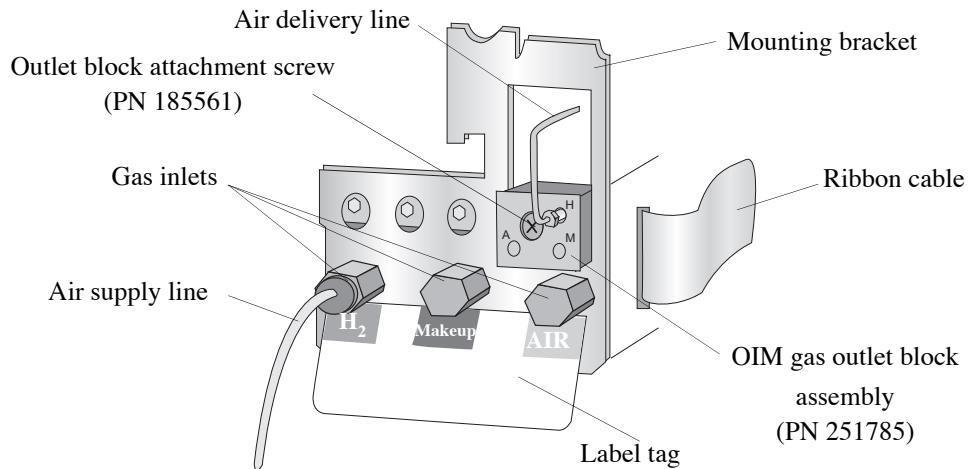

Figure 3.16. OIM gas flow module (nonventing configuration)
2. Remove the Agilent gas outlet block attached to the front upper right corner of the OIM gas flow module by unscrewing the Torx T-20 outlet block attachment screw (PN 185561) (refer to Figure 3.16). Leave the three O-rings in place
11. If not using a venting option, remove the protective cap from the gas inlet marked “H₂” on the front of the gas flow module. Attach the air supply line to this inlet using a $\frac{1}{8}$ " brass Swagelok® nut and brass ferrule (refer to Figure 3.16).
- If the venting option is not used, attach the supplied $\frac{1}{16}$ " stainless steel air delivery line (PN 193409) to the gas outlet marked as "H" on the OIM outlet block using a $\frac{1}{16}$ " nut (PN 223057) and ferrule (PN 216366) (refer to Figure 3.16). This line provides oxidant gas flow in the 20–40 mL/minute flow range to the XSD.